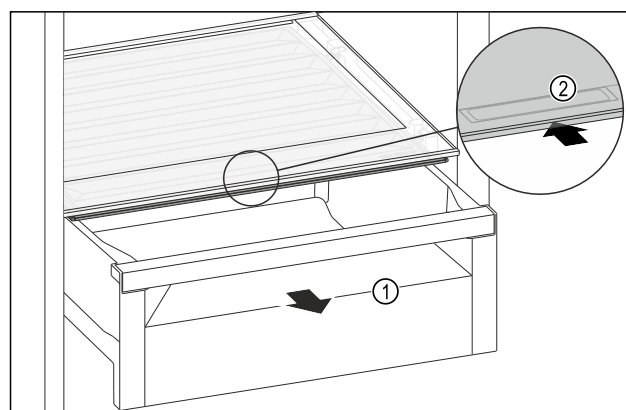

Fig. 96
- Pull out the drawer Fig. 96 (1).
- Grip the handle recess Fig. 96 (2) on the lid while pulling the lid backward at the same time.